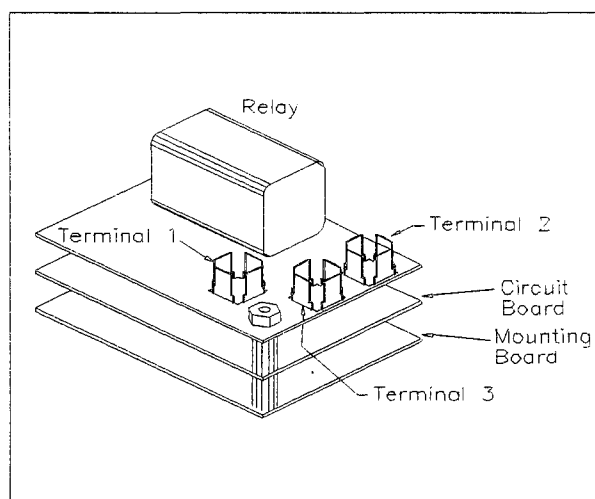

Figure 3-35
- a) Measure AC input voltage at 1/4" spade connectors on timer (see figure 3-35, terminals 1 and 2).
12. Measure AC output voltage at timer (see figure 3-35, terminals 2 and 3).